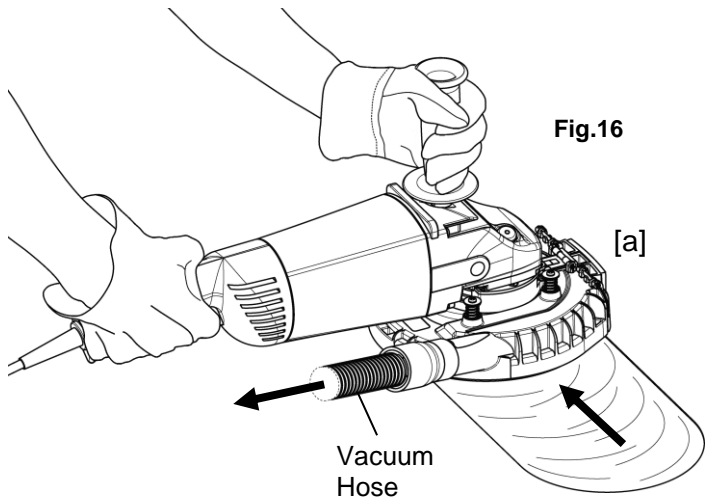

Fig.16
4. Place the [a] Main Unit on the material and move slowly over the surface to be ground. (Fig.16)